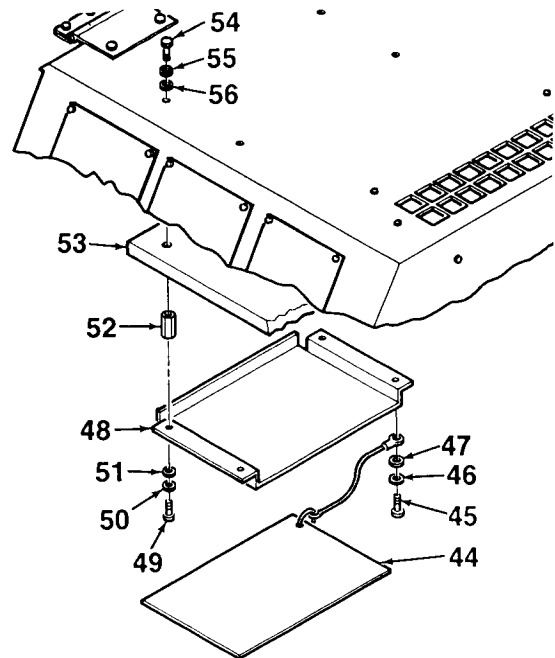

Figure 4-37. Main Access Cover
1. Install four spacers (52, Figure 4-37) onto underside of main access cover (1) using screws (54), lockwashers (55), and washers (56).
2. Install insulation (53) and document tray (48) over four spacers (52). Secure using three screws (49), lockwashers (50), and washers (51).
3. Secure laminated cards (44) to document tray (48) using screw (45), lockwasher (46), and washer (47).